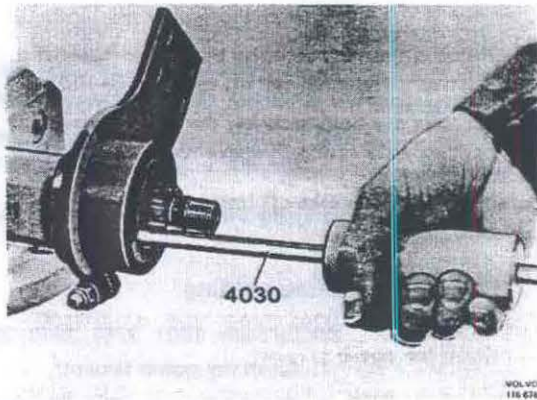

Fig. 46-137 Removing the seal
4. Remove the sealing rings with 4030, Fig. 46-137.